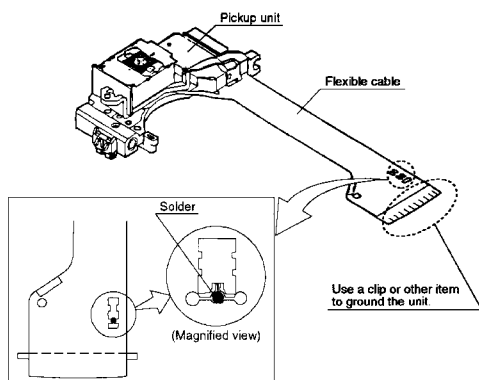

Fig. 3-1.
2. To prevent the breakdown of the laser diode, an antistatic shorting pin is inserted into the flexible board (FPC board). Refer to Fig. 3-1.